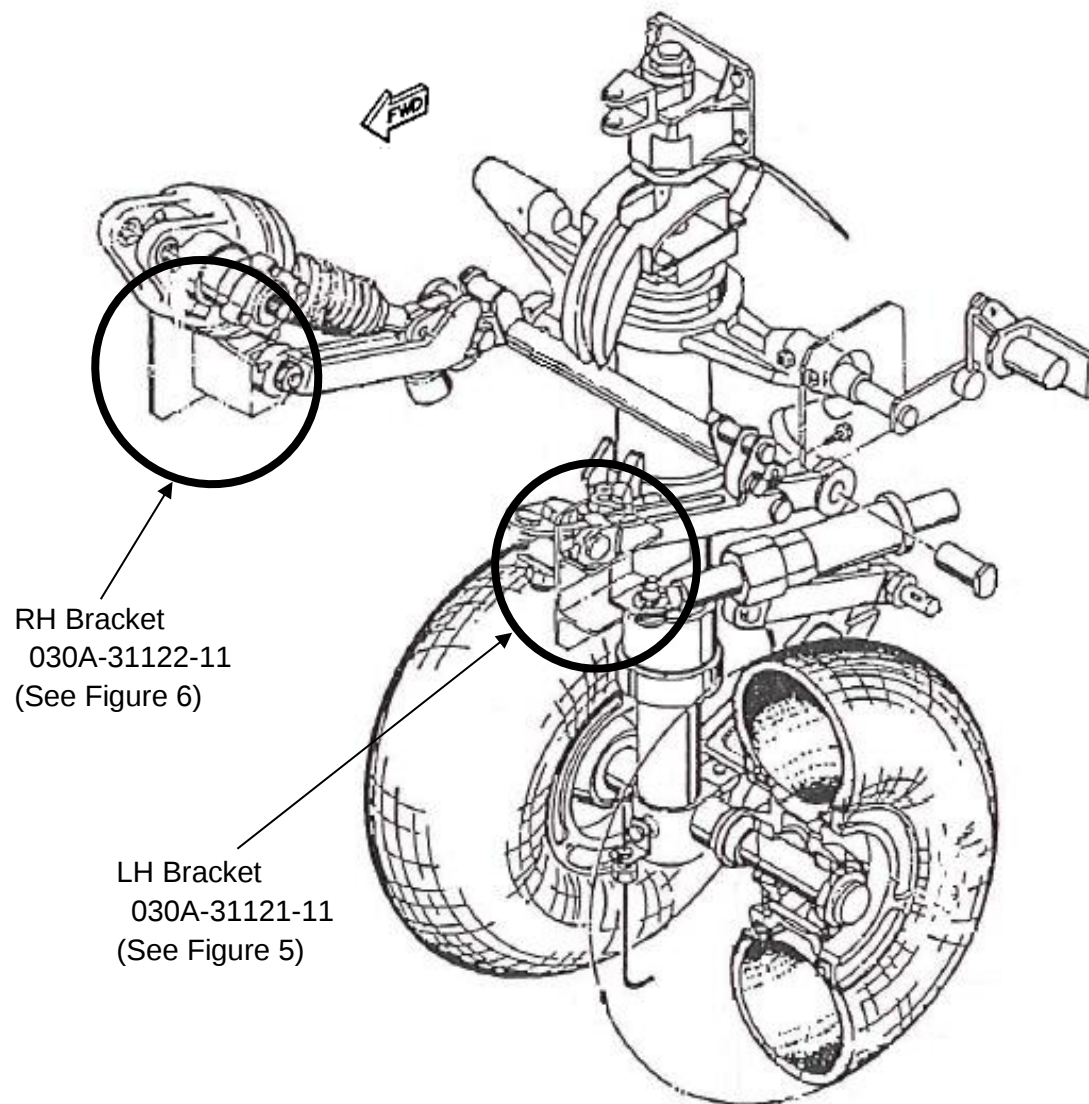

Figure 4: Drag Strut to Fuselage Bracket Location
- (1) Confirm the part number of LH NLG Drag Strut to Fuselage Bracket. If the part number is 030A-31121, perform SB No. 195.
- (2) Visually inspect LH and RH Drag Strut to Fuselage Brackets (030A-31121-11 and 030A-31122-11) for cracks in the area shown in Figure 4, 5 and 6.